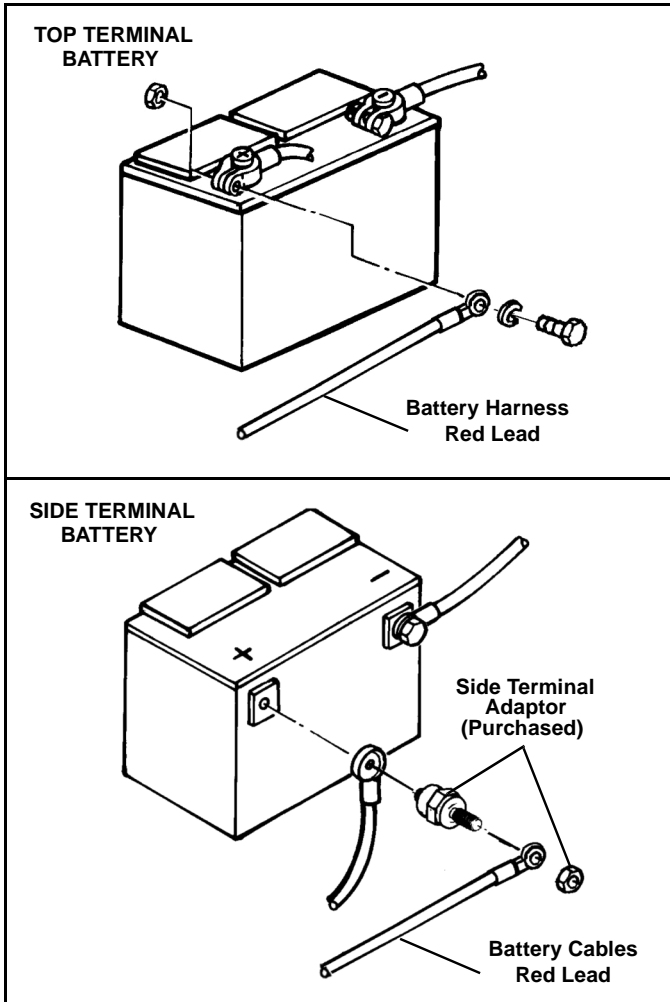

Figure 1-4
4. Attach the other end of one 2 ft. long battery cable to the POSITIVE (+) terminal post on the battery. (See Figure 1-4).